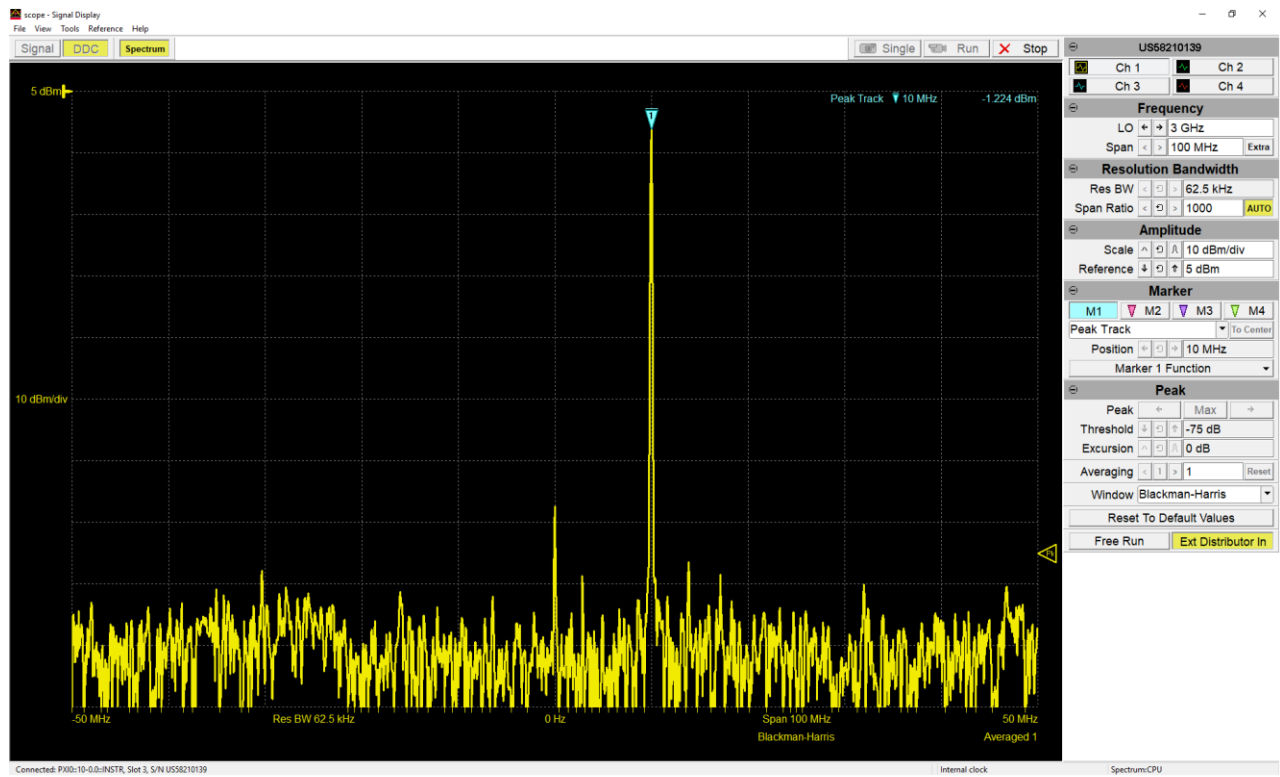

Figure 22. DDC spectrum analyzer (frequency domain) display with software control panel
- DDC Spectrum Display mode - to observe down converted signal in frequency domain (See Figure 22)